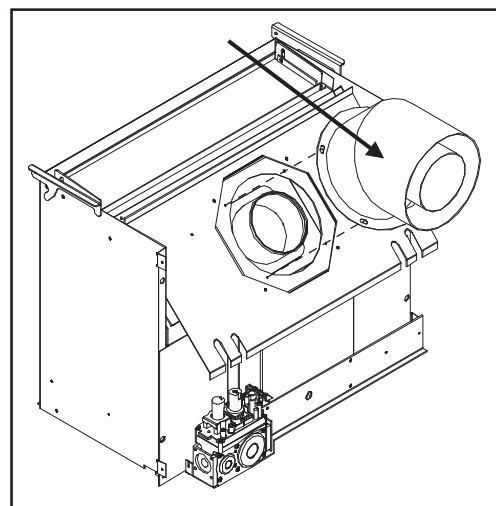

Figure 45: Step 4 of Converting Top Vented into Rear Vented.
4. Turn the elbow to the rear vent position and re-fasten with the screws removed in step 2 (see Figure 45).